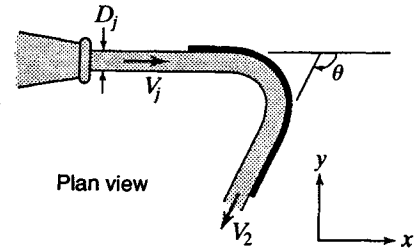

Figure X6.6.6
6.6.6 In Fig. X6.6.6 assume that friction is negligible, that $\theta = 115^\circ$, and that the water jet has a velocity of 95 fps and a diameter of 1 in. Find (a) the component of the force acting on the blade in the direction of the jet; (b) the force component normal to the jet; and (c) the magnitude and direction of the resultant force exerted on the blade.